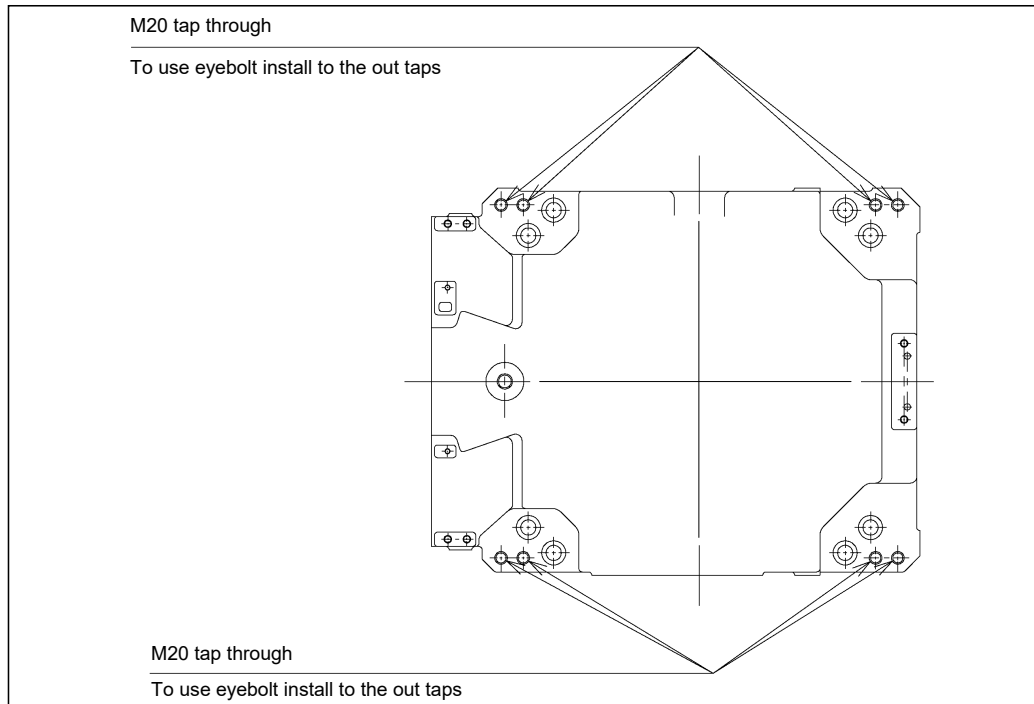

Fig. 1.1 (a) Position of the eyebolts and transportation equipment
- (1) Transportation using a crane (Fig. 1.1 (b) to (l))
- (2) Transportation using a fork lift (Fig. 1.1 (m) to (w))